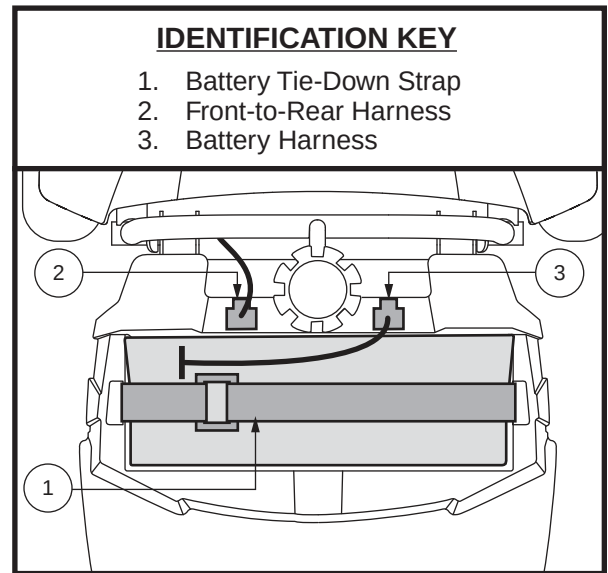

Figure 21. Battery Tie-down Strap
1. Disconnect the battery harness and remove the battery pack from the Travel Scooter. See figure 21.
**See figure 21.**